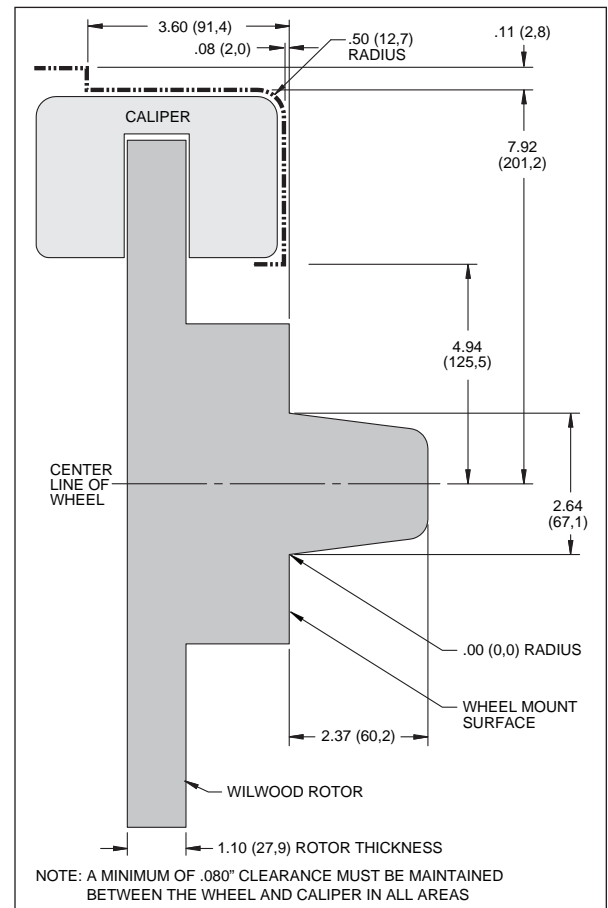

Figure 2. Wheel Clearance Diagram
- Review the Wheel Clearance Diagram (Figure 2, page 4) to verify that there is adequate clearance with the wheels you will be using with the installation.
- Verify wheel clearance utilizing Figure 2.